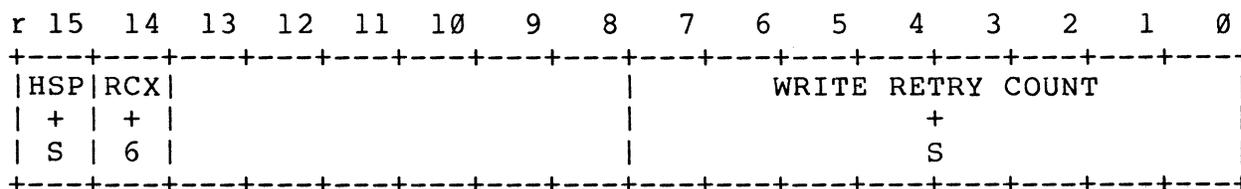

Figure 3-13 XST4 Register Format
3.3.2.9 Extended Status Register 4 (XST4) -- Extended Status Register 4 (XST4) appears as the eighth word in the Message Buffer stored by the TSV05 upon completion of a or on an Attention (ATTN). Figure 3-13 illustrates the register format and Table 3-11 describes each bit. Note that for this word to be stored, the Extended Features option must be enabled and the Message Buffer extent parameter specified in the Write Characteristics command must be increased by 2 over the normal TS11 specification.